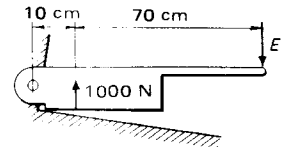

Fig. 2.47
4. Fig. 2.47 shows a bench guillotine. Find the effort  $E$  needed to supply the shearing force of 1000 N which is applied to the work.